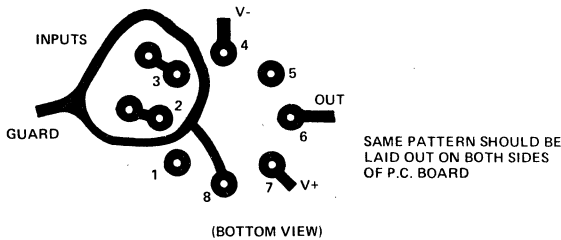
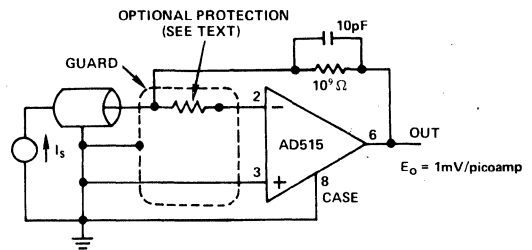

Figure 1. Board Layout for Guarding Inputs with Guarded TO-99 Package
Figure 2. Picoampere Current-to-Voltage Converter Inverting Configuration
2. The use of guarding techniques is essential to realizing the capability of the ultra-low input currents of the AD515. Guarding is achieved by applying a low impedance bootstrap potential to the outside of the insulation material surrounding the high impedance signal line. This bootstrap potential is held at the same level as that of the high impedance line; therefore, there is no voltage drop across the insulation, and hence, no leakage. The guard will also act as a shield to reduce noise pickup and serves an additional function of reducing the effective capacitance to the input line. The case of the AD515 is brought out separately to pin 8 so that the case can also be connected to the guard potential. This technique virtually eliminates potential leakage paths across the package insulation, provides a noise shield for the sensitive circuitry, and reduces common-mode input capacitance to about 0.2pF. Figure 1 shows a proper printed circuit board layout for input guarding and connecting the case guard. Figures 2 and 3 show guarding connections for typical inverting and non-inverting applications. If pin 8 is not used for guarding, it should be connected to ground or a power supply to reduce noise.
3. Printed circuit board layout and construction is critical for achieving the ultimate in low leakage performance that the AD515 can deliver. The best performance will be realized by using a teflon IC socket for the AD515; but at least a teflon stand-off should be used for the high-impedance lead. If this is not feasible, the input guarding scheme shown in Figure 1 will minimize leakage as much as possible; the guard ring is connected to a low impedance potential at the same level as the inputs. High impedance signal lines should not be extended for any unnecessary length on a printed circuit; to minimize noise and leakage, they must be carried in rigid, shielded cables.
Many instrumentation situations, such as flame detectors in gas chromatographs, involve measurement of low level currents from high-voltage sources. In such applications, a sensor fault condition may apply a very high potential to the input of the current-to-voltage converting amplifier. This possibility necessitates some form of input protection. Many electrometer type devices, especially CMOS designs, can require elaborate zener protection schemes which often compromise overall performance. The AD515 requires input protection only if the source is not current-limited, and as such is similar to many JFET-input designs. The failure mode would be overheating from excess current rather than voltage breakdown. If the source is not current-limited, all that is required is a resistor in series with the affected input terminal so that the maximum overload current is 0.5mA (for example, 200k Ω for a 100 volt overload). This simple scheme will cause no significant reduction in performance and give complete overload protection. Figures 2 and 3 show proper connections.
There are two ways to circumvent this problem. For inverting signals or low-level current measurements, the signal is carried on the line connected to the inverting input and shielded (guarded) by the ground line as shown in Figure 2. Since the signal is always at virtual ground, no voltage change is required and no capacitances are charged. In many circumstances, this will de-stabilize the circuit; if so, capacitance from output to inverting input will stabilize the circuit.